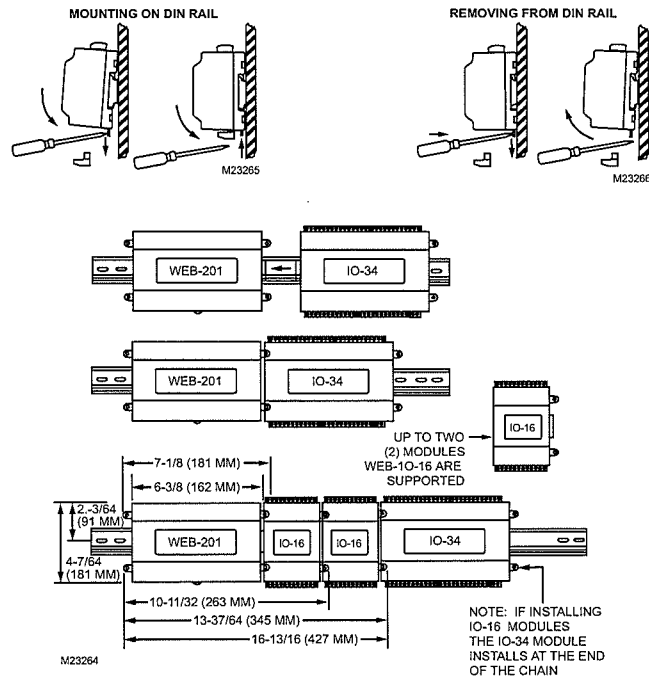

Fig. 2. WEB-IO-34 Module mounting details.
- DIN rail, type NS35/7.5 (35 mm x 7.5 mm) recommended for mounting with WEB-201 controller. The DIN rail should be sufficient length to accommodate both the WEB-201 controller and WEB-IO-34 module. See Fig. 2.
NOTE: If installing the WEB-201 controller and WEB-IO-34 module at the same time, refer to the WEB-201 INSTALLATION INSTRUCTIONS guide literature no. 95-7722 to install the WEB-201 controller. In this case, the WEB-IO-34 module is typically the "approved power source", used *in place* of a WEB-NPB-PWR module. A maximum of 2 additional WEB-IO-16 modules are supported. See Fig. 2.
DIN MOUNTING IS RECOMMENDED OVER TAB MOUNTING. SEE FIGURE 2.
Step 2	Position the WEB-IO-34 module on the rail, tilting to hook DIN rail tabs over one edge of the DIN rail. (See Fig. 2)
NOTE: To remove WEB-IO-34 module from DIN rail, slide it away from other modules. Insert a screwdriver in the center plastic locking tab and pull downwards, then lift the unit outwards. It may be necessary to remove an I/O connector plug as shown at the top of Fig 2.